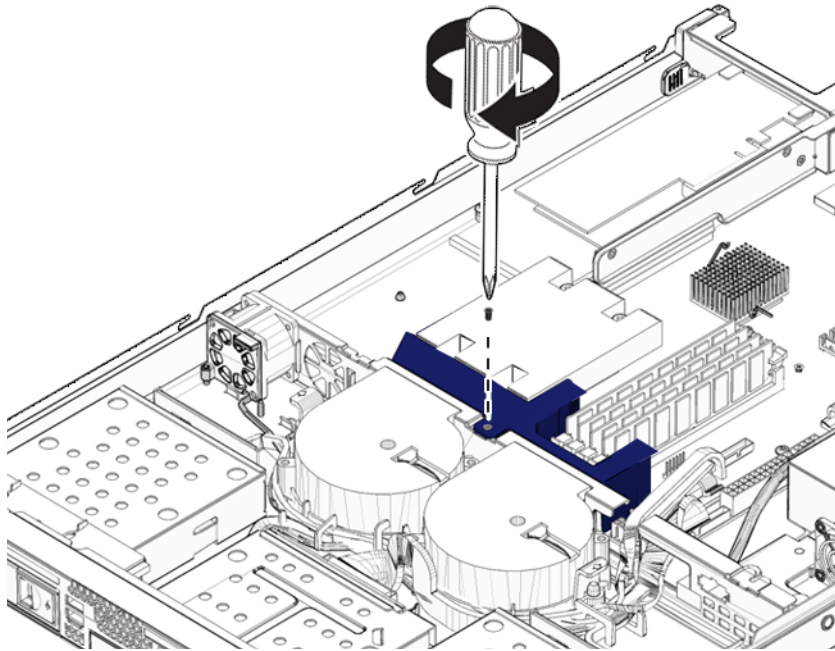

FIGURE 4-20 Air Duct Installation
1. Position the air duct as shown in FIGURE 4-20, aligning the baffle with the screw hole and opening in chassis divider.